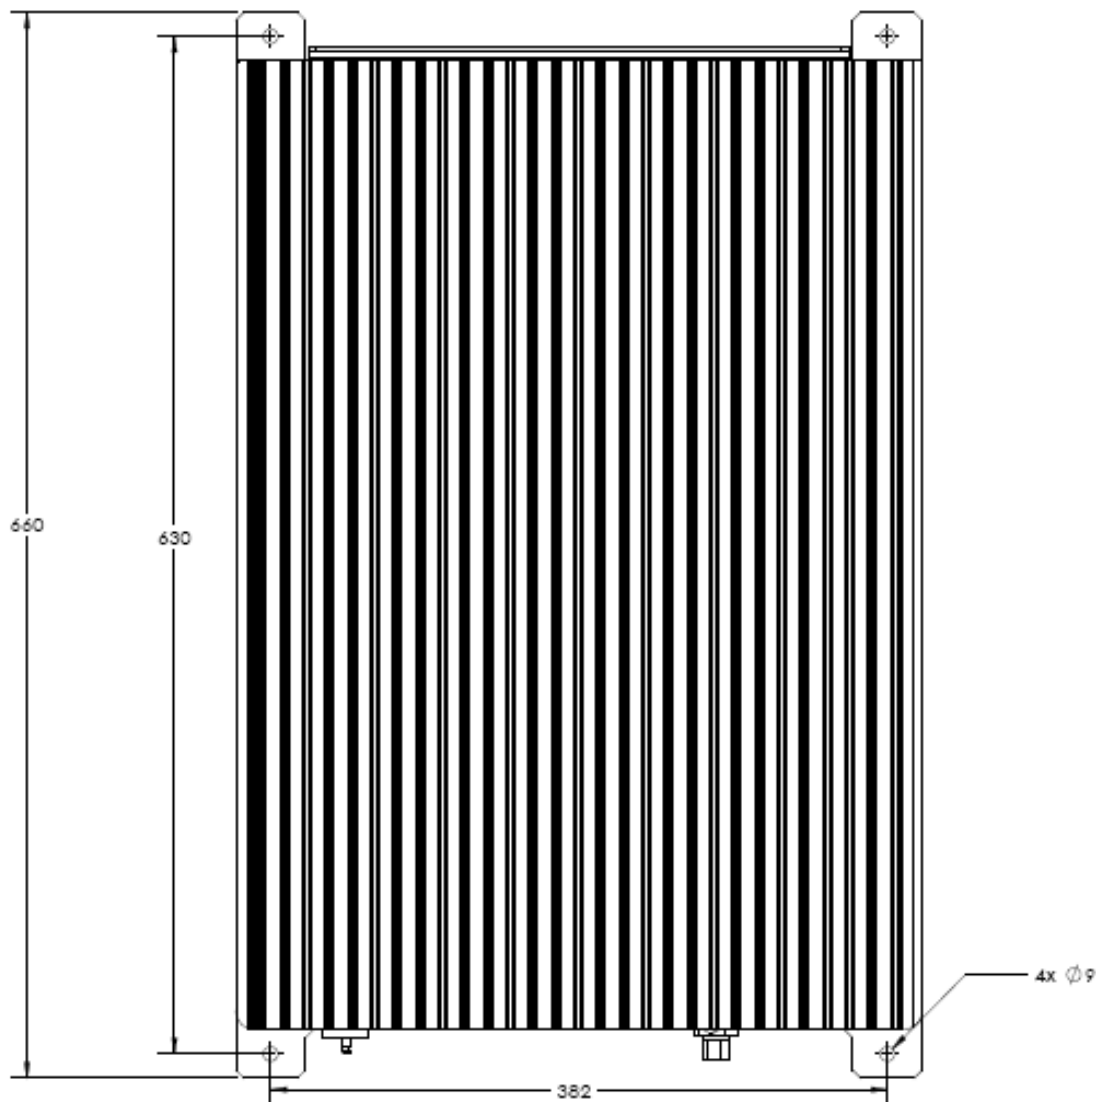

Figure 2-2: Mounting Holes Drawing
3. Drill holes and insert suitable dowels. See holes spacing dimensions in Figure 2-2.